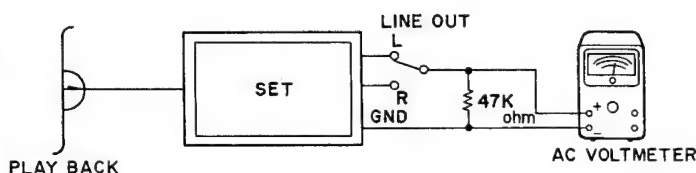

Figure 22
- (1) Make the connections as shown in Figure 22 and turn the power ON.
- (2) Insert test tape MTT150 into deck A and play it back. Adjust VR2001 (VR2002) so that the line output L(R) becomes 550 mV.
- (3) Insert the test tape into deck B as in deck A and adjust VR2101 (VR2102) so that the line output L (R) becomes 550 mV.